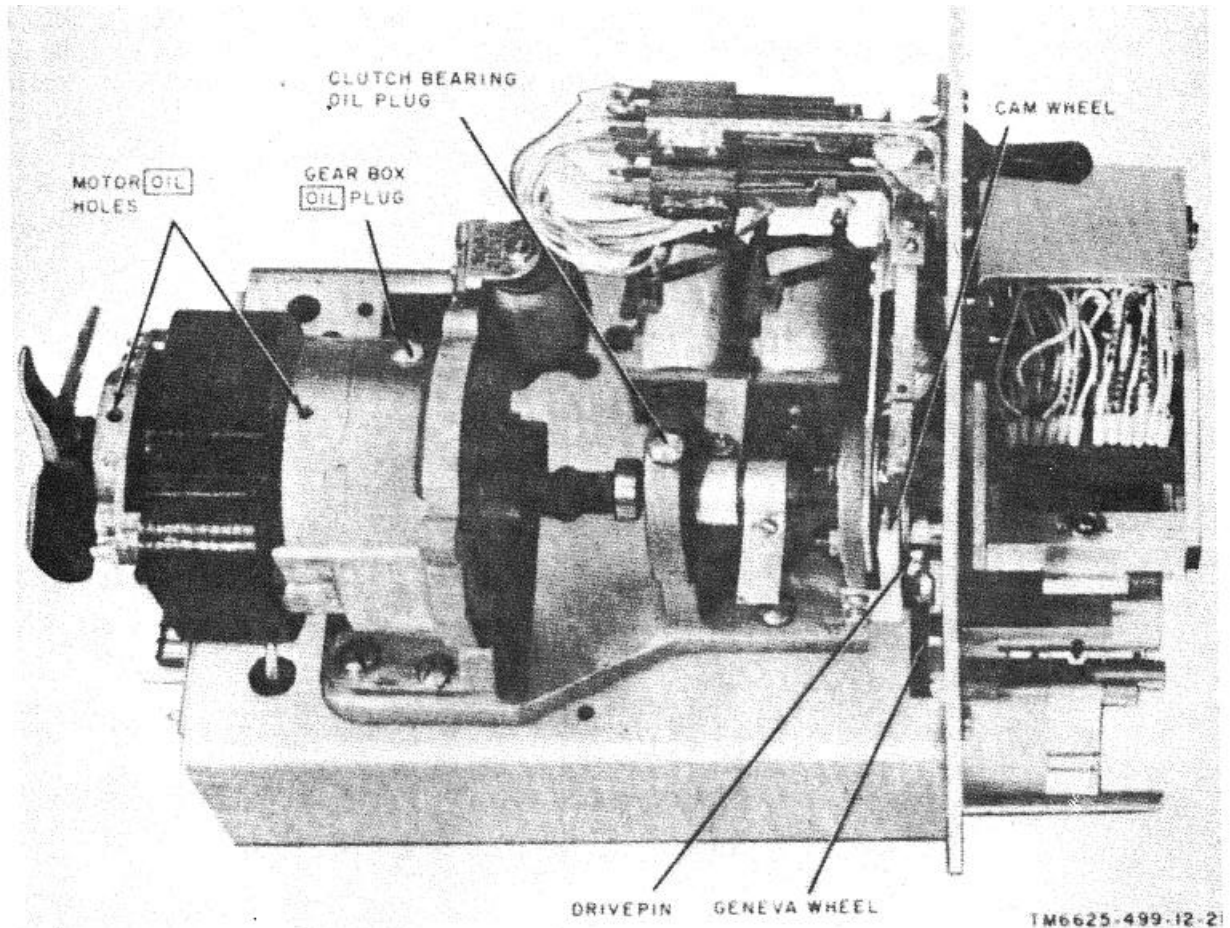

Figure 20. Slave Unit, Test Set MX-3844/GSM-72 lubrication points.
56. Slave Unit, Test Set MX-3844/GSM-72 Tape Reader Lubrication (fig. 20)